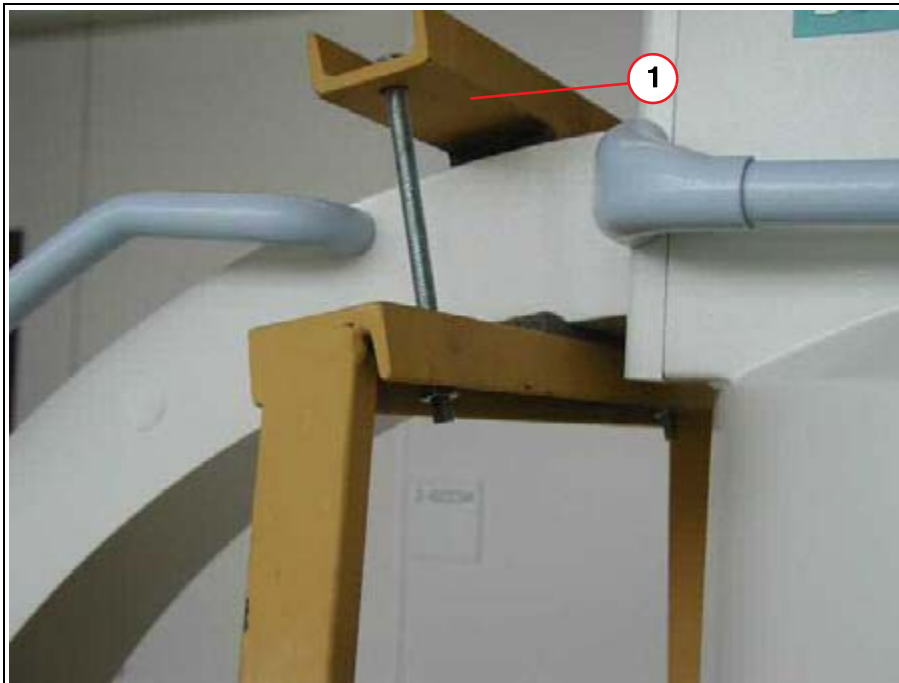

Fig. 6: \_Transport clamp
- Unscrew and remove the transport clamp (1/Fig. 6 / p. 7).